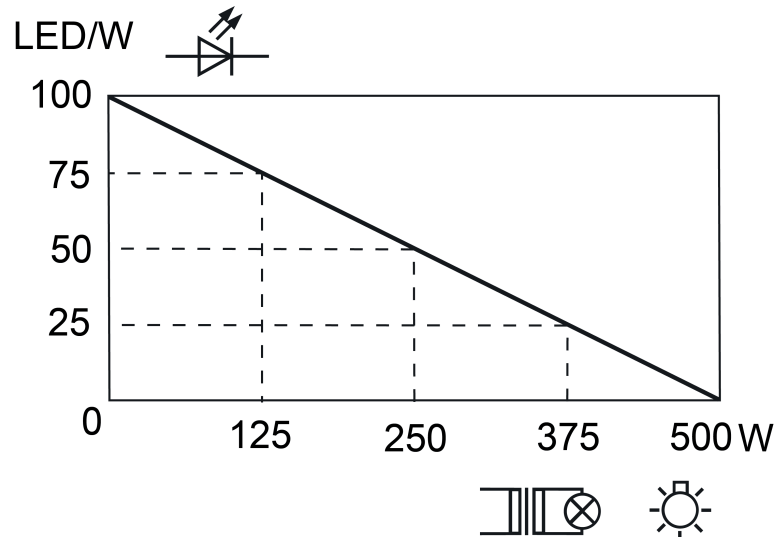

Figure 4
- i** Mixed-load operation of LED lamps or compact fluorescent lamps with other permissible loads possible. Note load curve (figure 4).